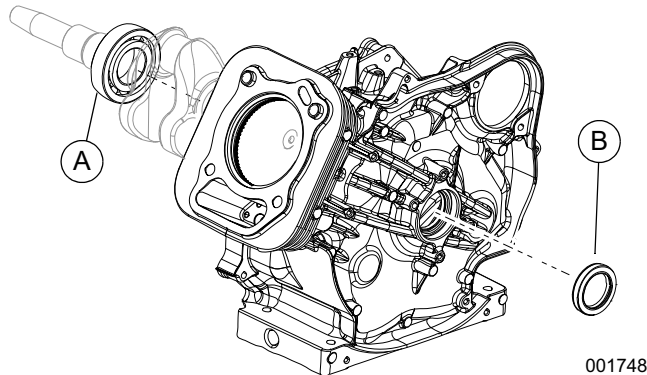

Figure 11-6. Crankshaft Bearings
See Figure 11-6. The crankshaft is supported by a crankcase ball bearing (A) at one end. An oil seal (B) is seated in the bore on the other side of the crankcase.